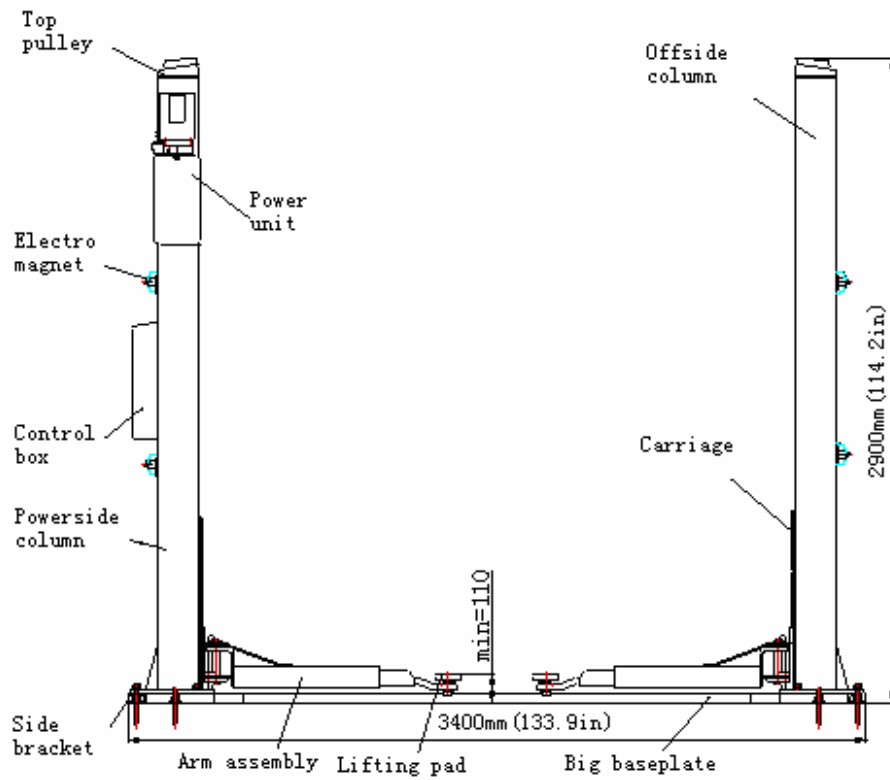
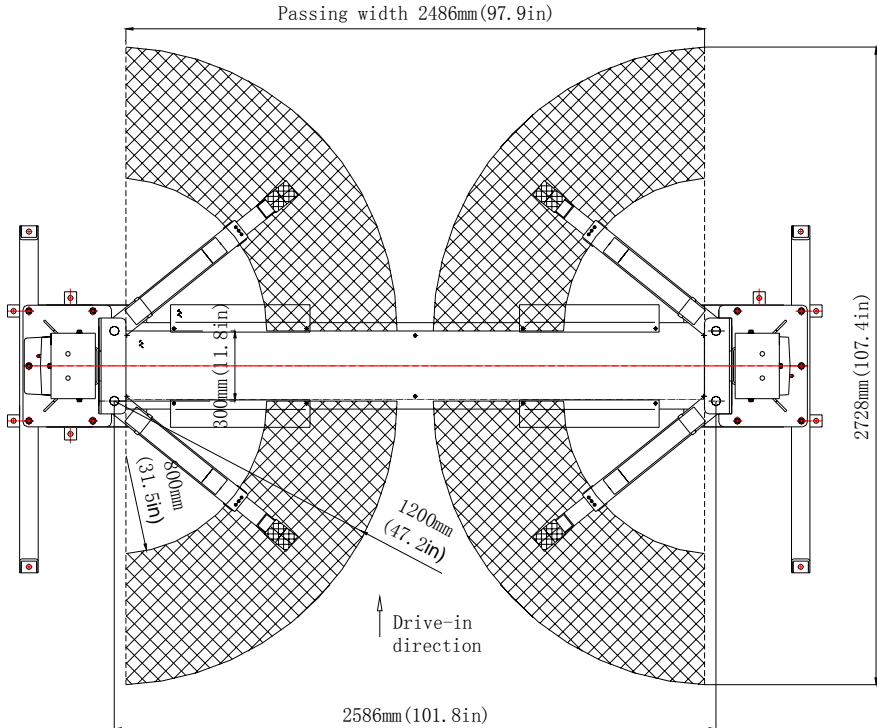

Fig 1b
Fig 2b
TLT235SBA(E) floor-plate 2-post lift	3.5T Electronic symmetric wide floor-plate 2-post lift(Fig1b、Fig2b)